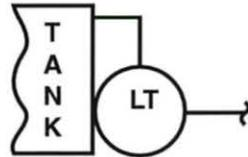

Figure 38. Level Sensing Element Symbol
2. Determine what type of level sensing element symbol is shown in figure 38.